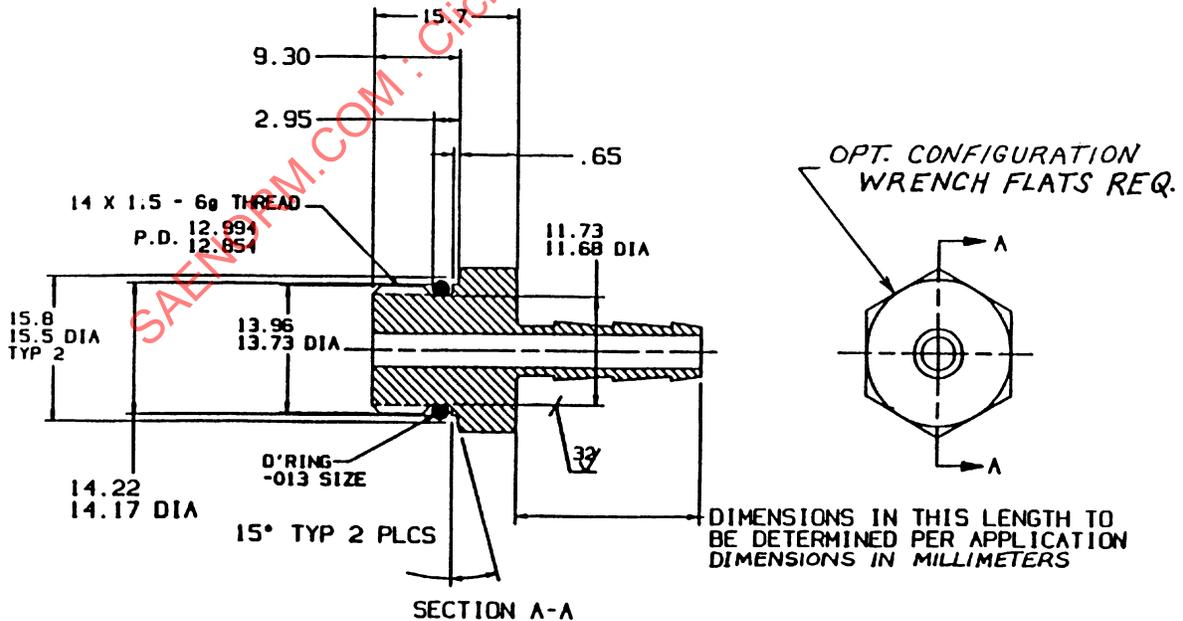

FIGURE 3—SAE HOSE BARB R-134a SERVICE ADAPTER
**3.2** M14 x 1.5-6G right hand thread, SAE Hose Barb connection. (Figure 3)